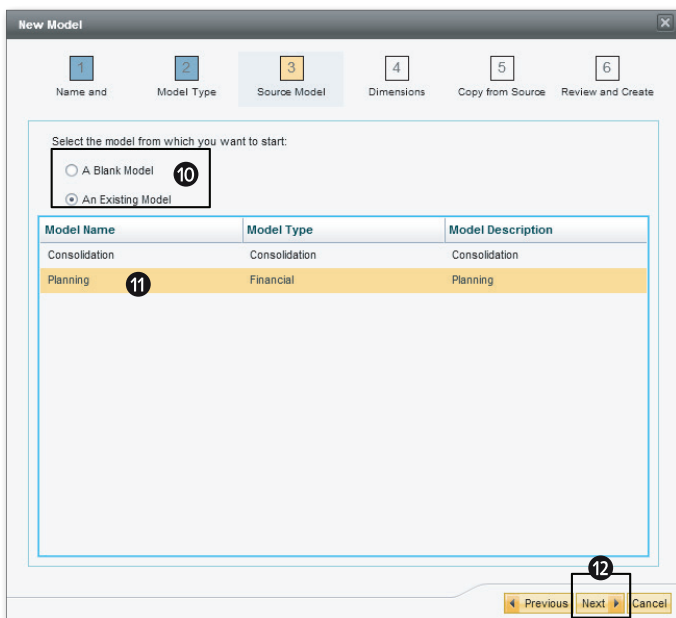

Figure 3.40 Creating a Model—Part D
5. Select whether you want to start using a blank model or use a source model as the template for creating the new model. Select AN EXISTING MODEL (Figure 3.40, ⑩), and choose PLANNING, which is a model that is delivered as part of ENVIRONMENT SHELL and has been copied into the current environment as the basis for creating the new model (Figure 3.40, ⑪). Select NEXT (Figure 3.40, ⑫).